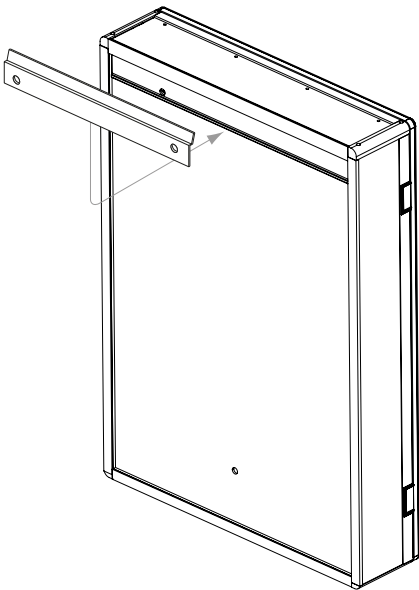
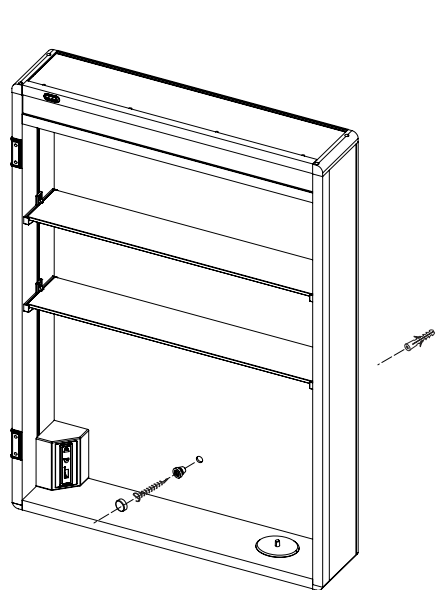

Fig. 3. - Mounting Point
Fig. 4. - Internal fixing point
5. Temporarily hang the cabinet on the top bracket, *see Fig. 3.*, and mark the position of the bottom mounting hole on the wall using a soft pencil, then remove the cabinet from the wall, *see Fig. 4.*
8. When the product is wired correctly, hang the cabinet on the top bracket, *see Fig. 3.*, and secure the cabinet with a screw through the bottom mounting hole, *see Fig. 4.*